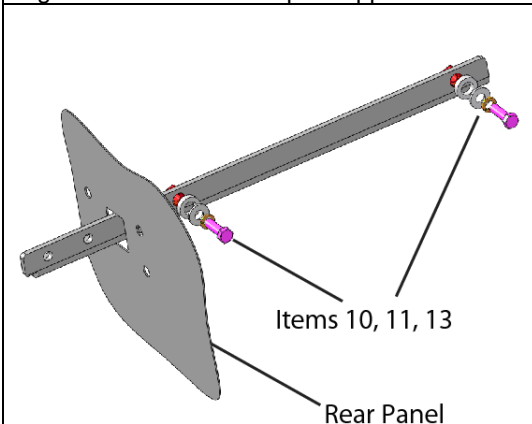

Figure 3 – Secure Chassis Inserts.
4. Loosely secure with M12x1.25x40 Bolts, Spring Washers & Flat Washers (Items 10, 11 & 13). Refer to Layout Diagram on Page 3 and Figure 3.